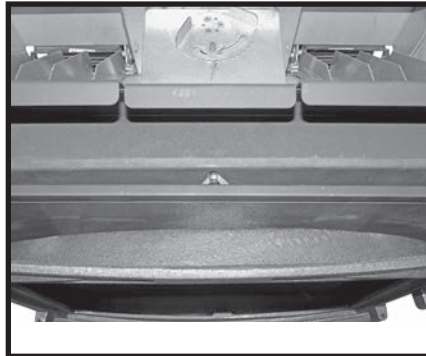
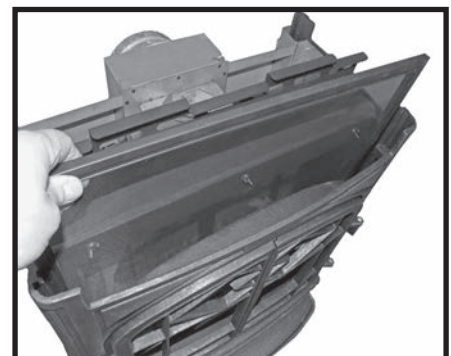

Fig. 33. Mesh cover
Fig. 34 Mesh removal
2. Raise the mesh cover as shown in Fig 33. and lift the mesh screen out (Fig. 34).